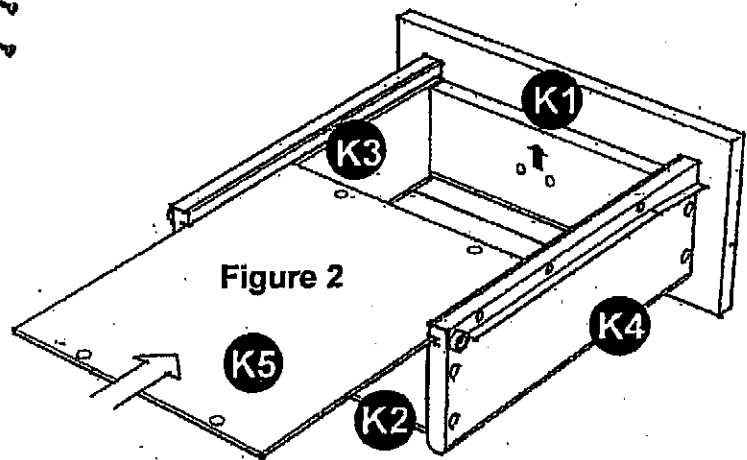

Figure 2
(Figure 2)
Attach Door (M) to the side panels by sliding the door lift hinges into the side panel lift hinges. (see Figure 2)
Slide K5 into the grooves in K3 and K4. Be sure to push K5 all the way forward so it meets K1. (see Figure 2)